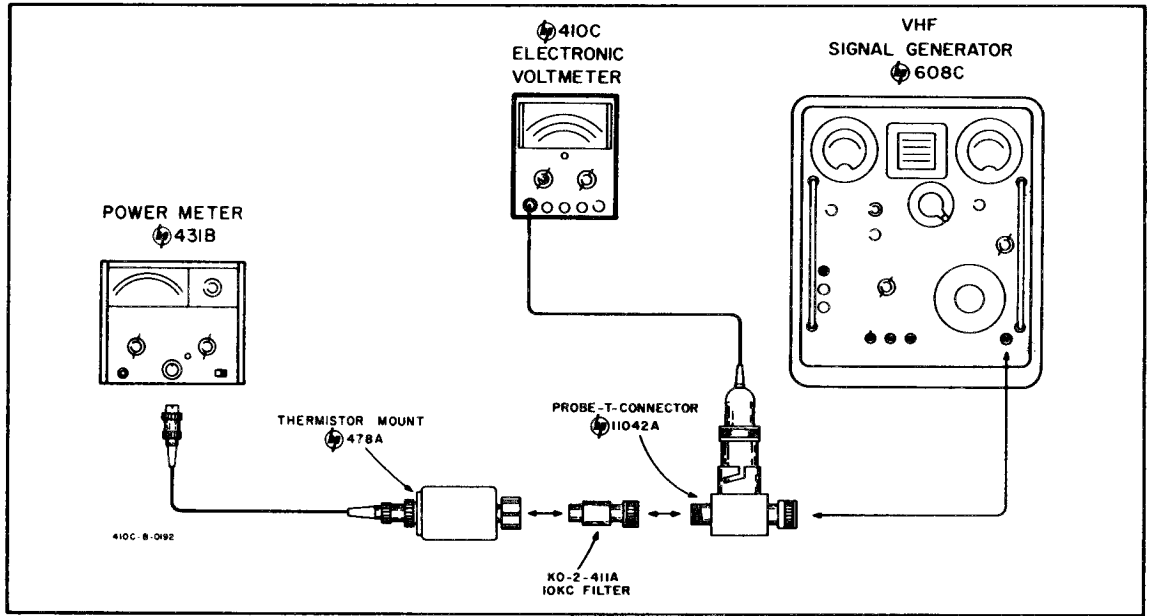

Figure 5-3. High Frequency Response Test
- a. Figure 5-3 describes the test arrangement required for this operation. Do not place Model 410C AC Probe in T-Connector at this point.
- a. A Frequency Response Test Set (Model 739AR), a Test Oscillator (Model 651A), an RF Signal Generator (Model 608 C), a Power Meter (Model 431 B), a Thermistor Mount (Model 478A), a Probe - T - Connector (Model 11042A), a VHF Signal Generator (Model 612A) and a 10 KC Filter (Model K02-411A) will be required for this operation. Figure 5-3 and 5-4 describe the arrangement to be
h. To check Model 410C frequency response from 10 Mc to 480 Mc, use arrangement described in Figure 5-3.